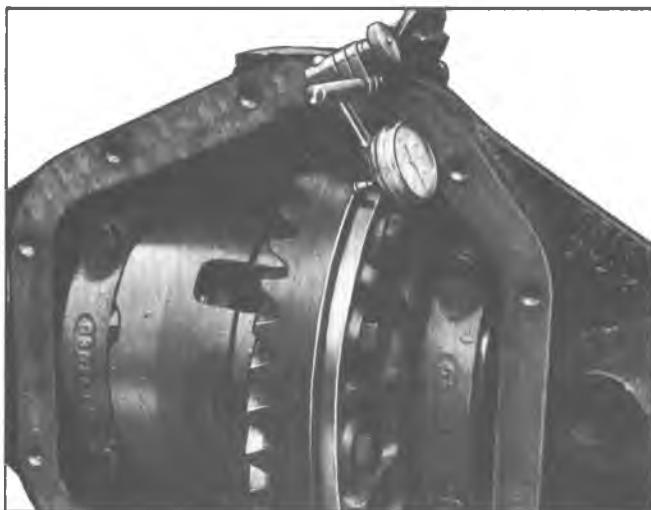

Fig. 7-Checking Runout
7. Install dial indicator on carrier with indicator button contacting back of ring gear (Fig. 7). Rotate differential case and check for runout. If runout is greater than .002", the assembly should be removed and the ring gear removed from the case. Again install differential case and check runout at differential case flange.
2. Install dial indicator on carrier with indicator button contacting back of ring gear (Fig. 7).